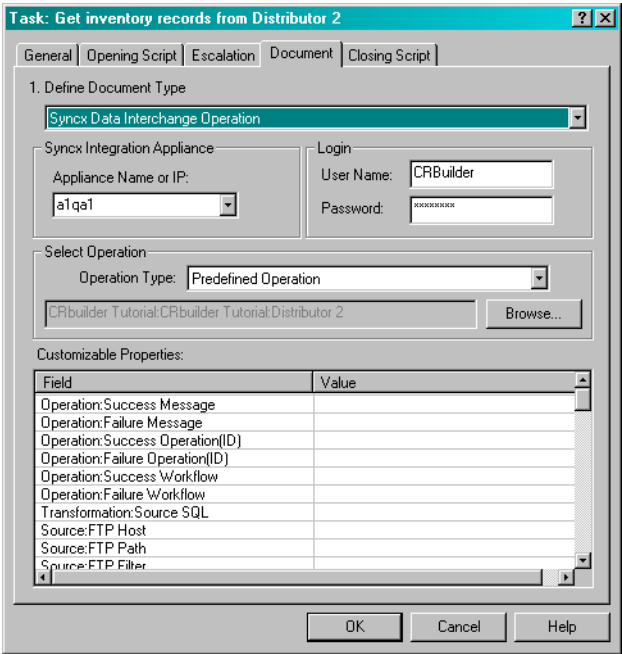

Figure 28-26. The task's document tab with an associated operation.
- 8 Compare your work to Figure 28-26, below.